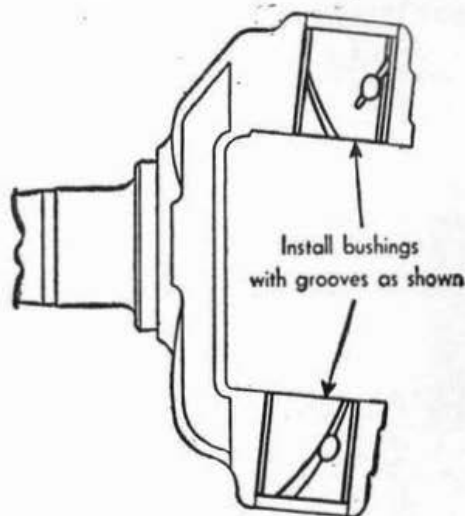

Fig. 37 Kingpin bushing installation, 1940-54
2. Press new bushings into steering knuckle, being sure that the oil hole in each bushing lines up with the oil hole in the knuckle, Fig. 37. Reaming of bushings is not necessary provided care is used when making the installation.